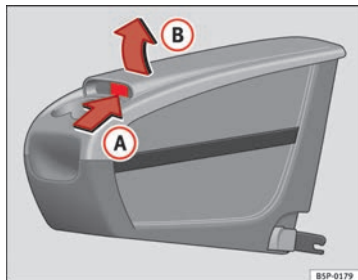

Fig. 115 Mobile storage compartment. Opening
- Lift the cover (B), in area (A) ⇒ fig. 115.